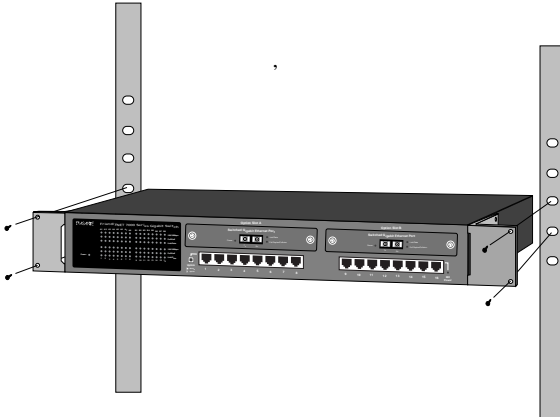

Figure 2-11 Mounting the FS7000 in an equipment rack
- 2 Mount the Switch in the equipment rack by screwing the mounting brackets to the equipment rack. See Figure 2-11.